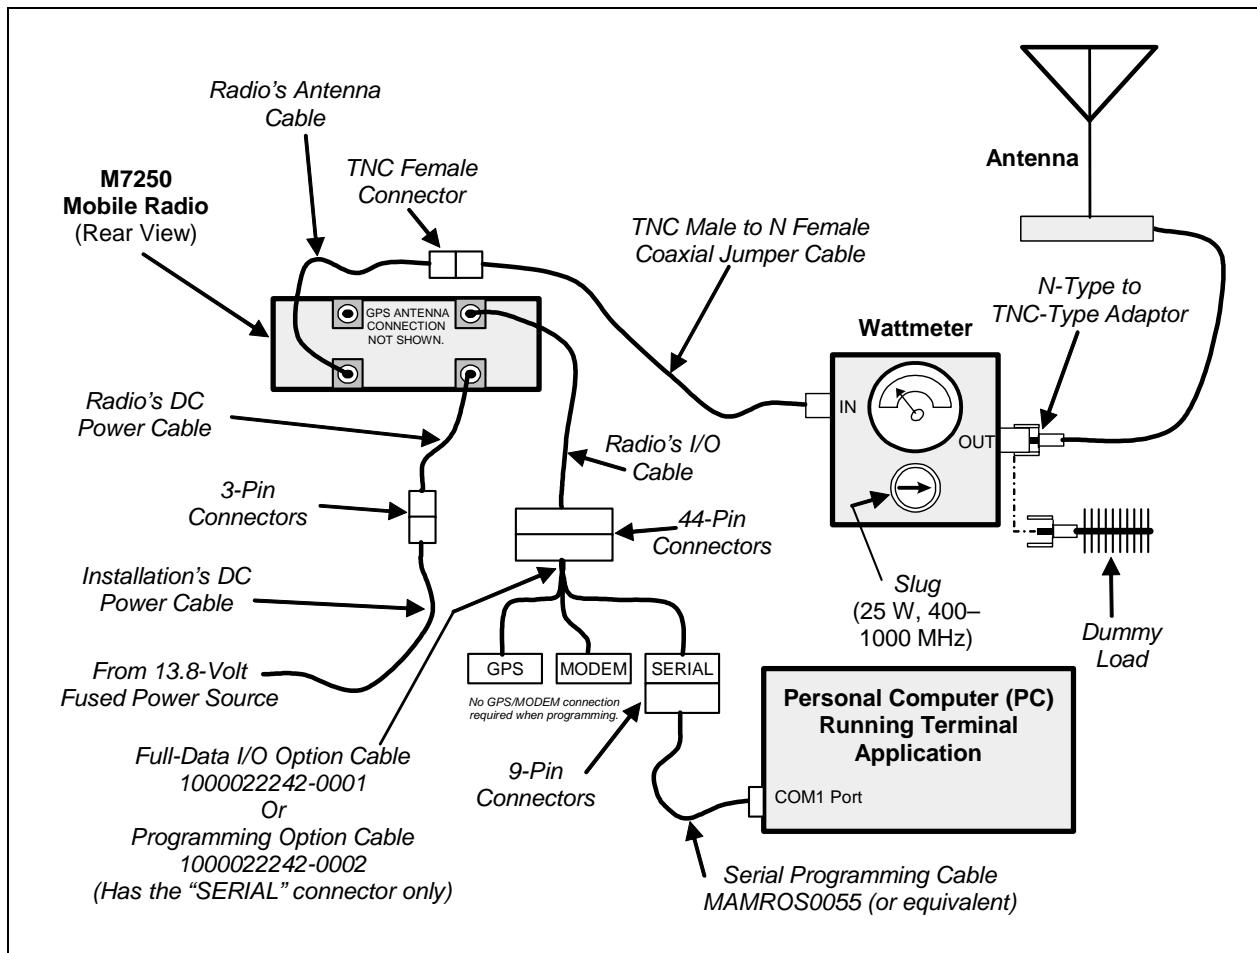

Figure 16-1: Wattmeter Connections
Figure 16-1 shows basic interconnections required for the following test procedure.
1. Connect the radio's antenna connector to the wattmeter and antenna as shown in Figure 16-1.